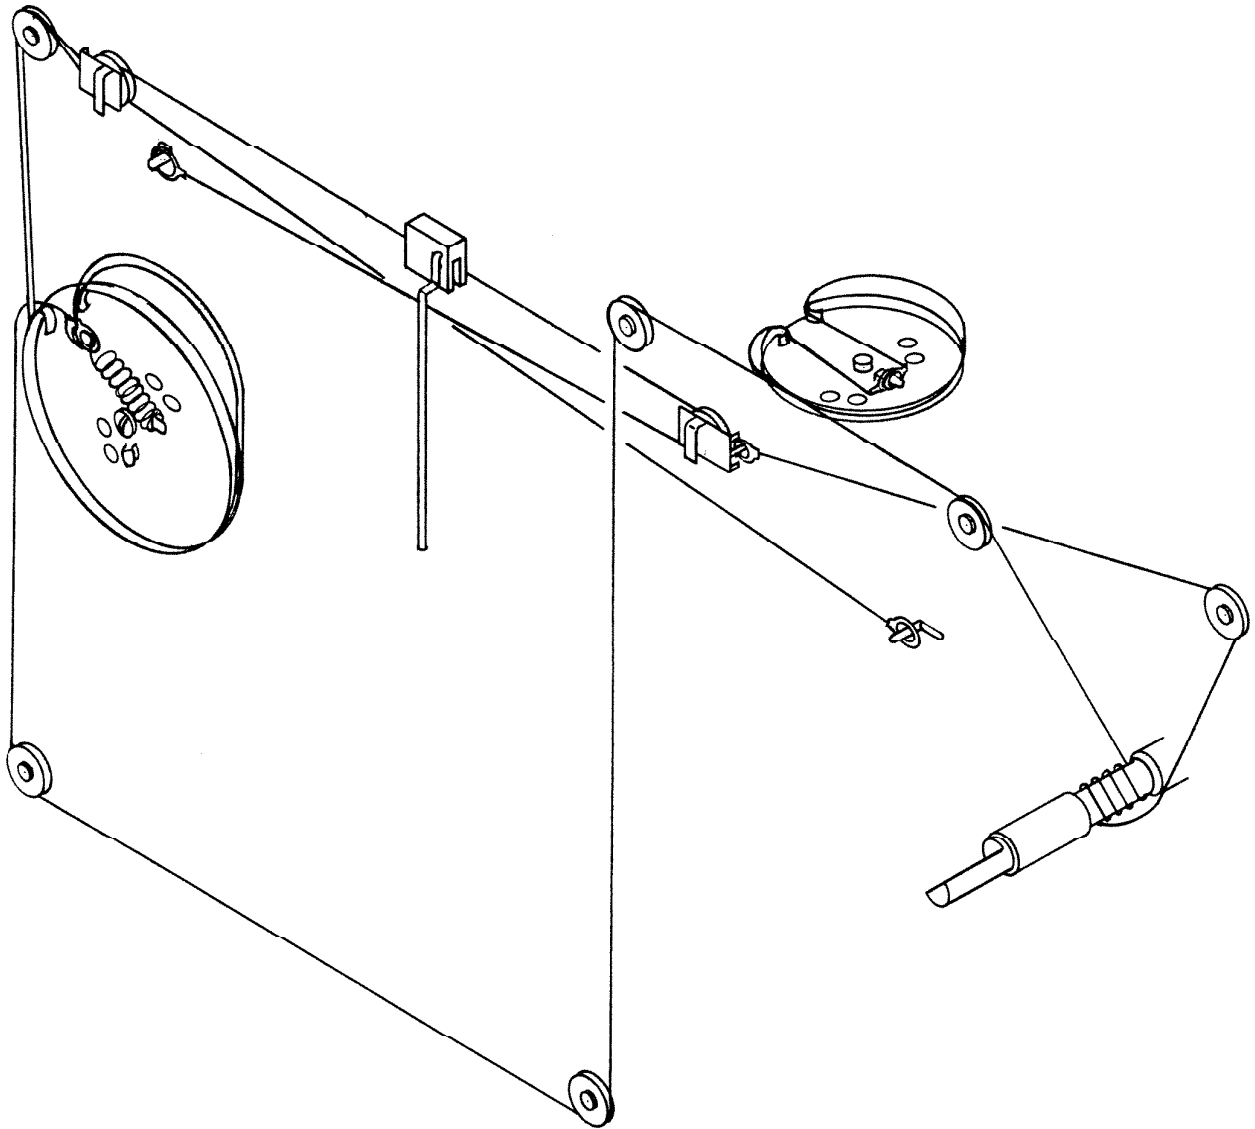

Fig. 1.34 — RECEIVER DIAL CORD INSTALLATION
- (4.2) Restring dial cord in accordance with diagram, Fig. 1.34.